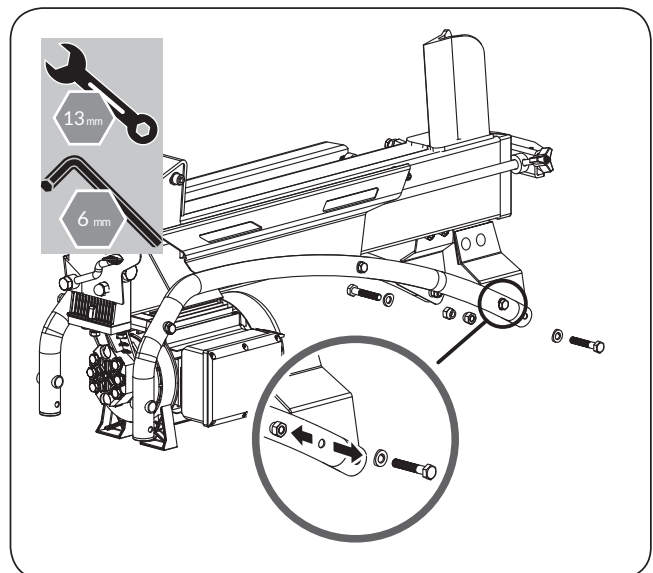

Figure 4
4. Remove the two M8X45 bolts that securing support frame tubes and mounting brackets. Set aside for later use. (See **Figure 4**)